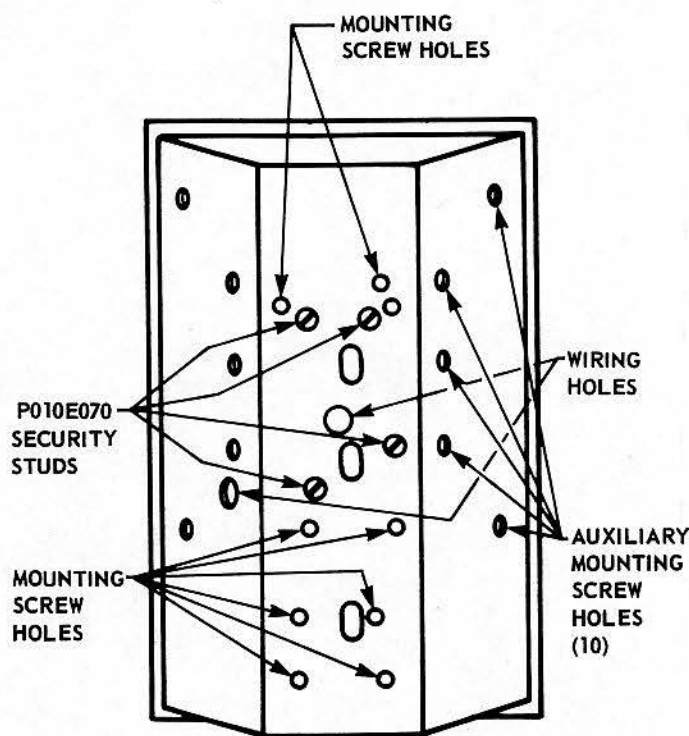

Fig. 5 — Arrangement of Mounting and Wiring Holes
5.03 The QSD300A and QSD2300A coin telephone sets have mounting screw holes identical to those provided on the NE-233 type coin collectors. Fig. 5 shows the arrangement of the mounting screw holes.
5.09 Provision is made for adding four security studs (P010E070) (Fig. 5). Security studs cannot be used in most enclosures since vertical movement of the set is necessary to engage the stud in the keyhole slot.